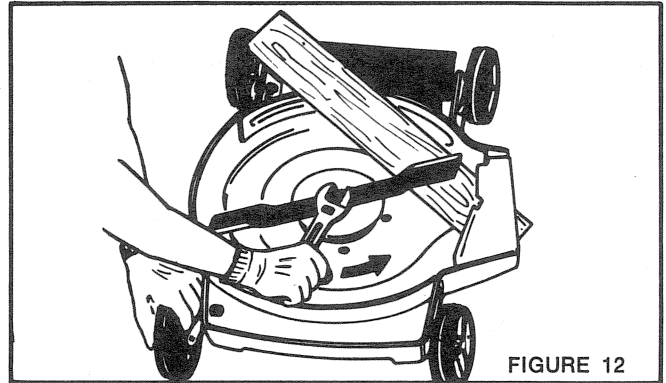

FIGURE 12
3. Wear gloves. Position wood and remove nut as shown in Figure 12. (If square blade spacer starts to turn with nut, use a second wrench to hold spacer and keep shaft from turning).